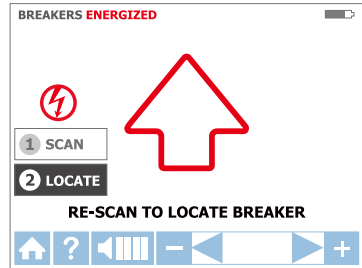

Figure 3.3d: LOCATE mode – Searching for correct breakers/fuses
1. Select LOCATE mode by using the directional arrows and pressing the yellow ENTER button (Figure 3.3d).